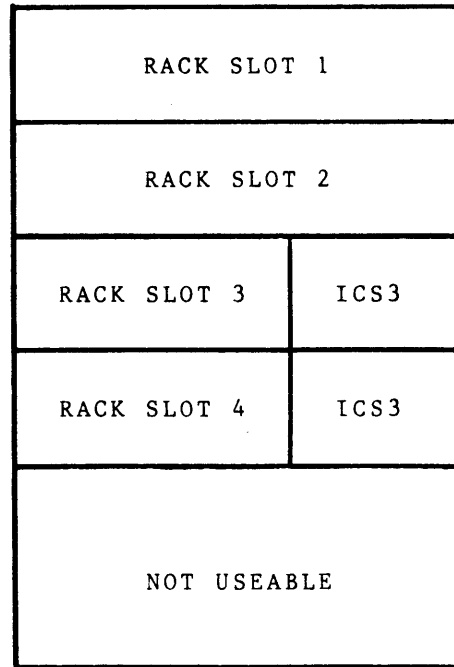

Figure 5-14. 7564S Side View
- REFER TO FIGURE 5-14 FOR ICS3 CONFIGURATIONS.
REFER TO FIGURE 5-14 FOR ICS3 CONFIGURATIONS.